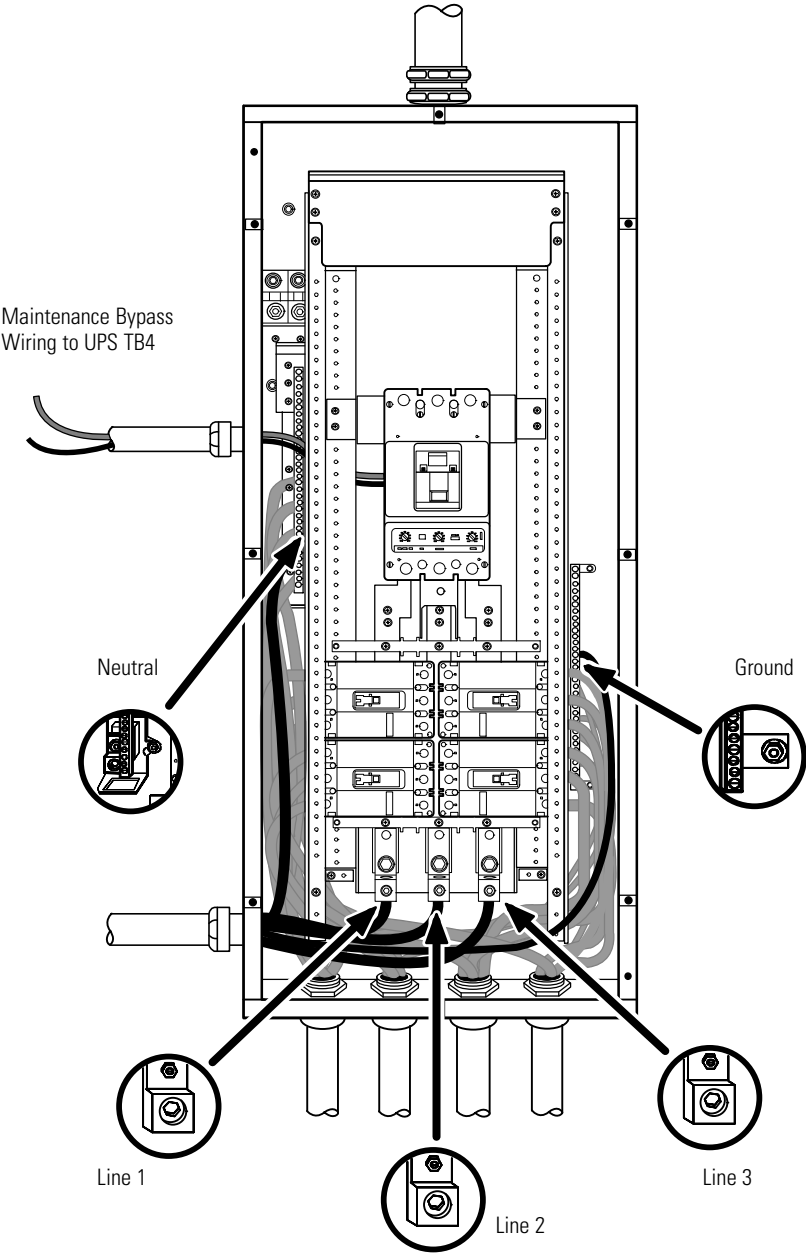
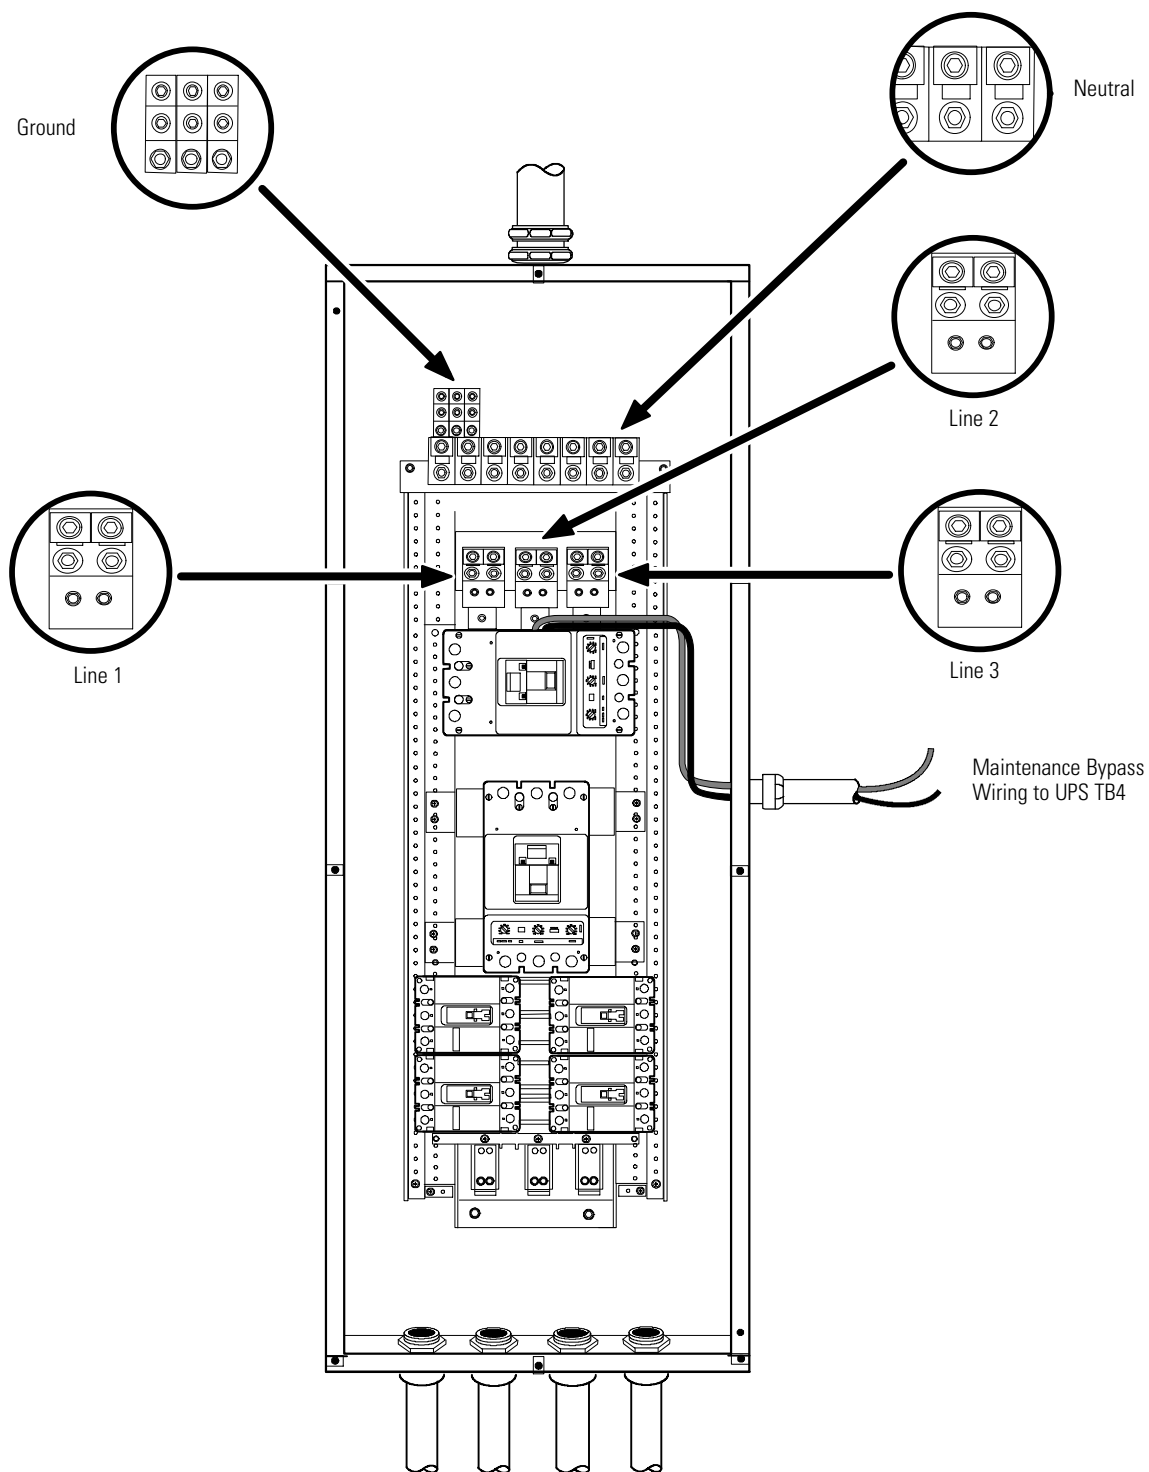

Figure 17. Bypass AC Input Wiring (Eaton Tie Cabinet Version 1 Shown)
Figure 18. Bypass AC Input Wiring (Eaton Tie Cabinet Version 2 with MIS Shown)
9. Wire the AC input to the bypass breaker on the Tie Cabinet (see Figure 17 for Version 1 or Figure 18 for Version 2).